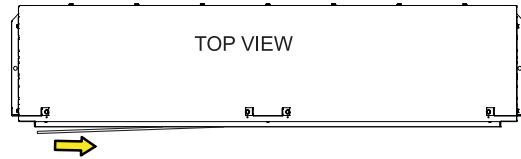

Figure 45
- Replace the glass front into the fireplace by placing the right side into the slots in the firebox. Carefully angle in the left side of the glass and then slide the glass to the left. Settle the glass into the slots by gently lowering it. **See Figures 45 - 48.**